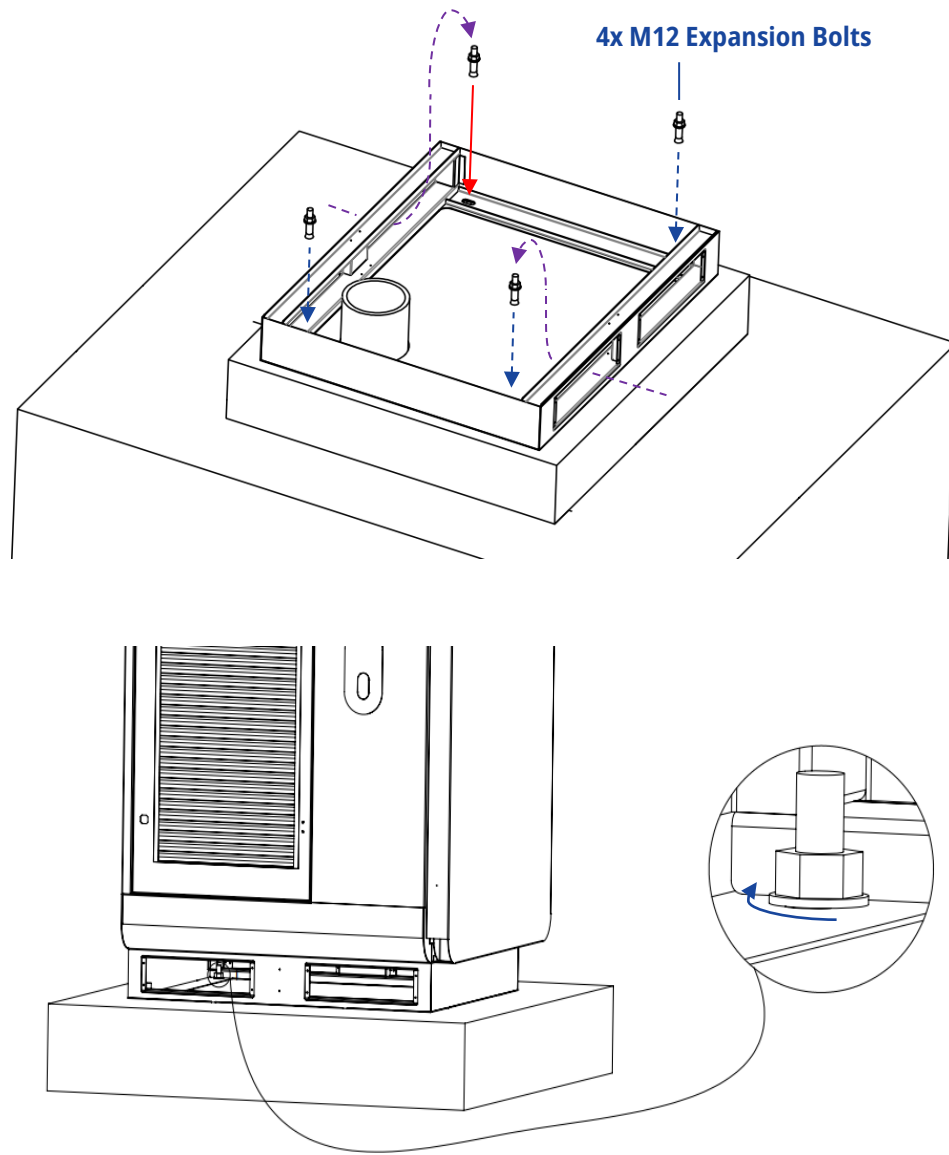

Figure 4.7 Fix the Charger on Top of the Concrete Foundation
- 5) Put the **4 M12 expansion bolts** through holes on the side of the charger's pedestal into the screw holes, then fasten them to fix the charger to the top of the foundation (**Figure 4.7**).
➤ Note that the screws normally do not have space to be lifted, like shown in **Figure 4.7** above. The graph is showing merely the bolts' relative position to the screw holes).